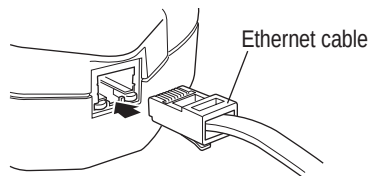

Figure 6: Attaching the Ethernet Cable to the AP100
3. Connect the PoE 100BaseT Ethernet cable, as shown in Figure 6.
7. Connect the PoE 100BaseT Ethernet cable (see Figure 6).
11. Connect the PoE 100BaseT Ethernet cable to the AP100-P (see Figure 6).